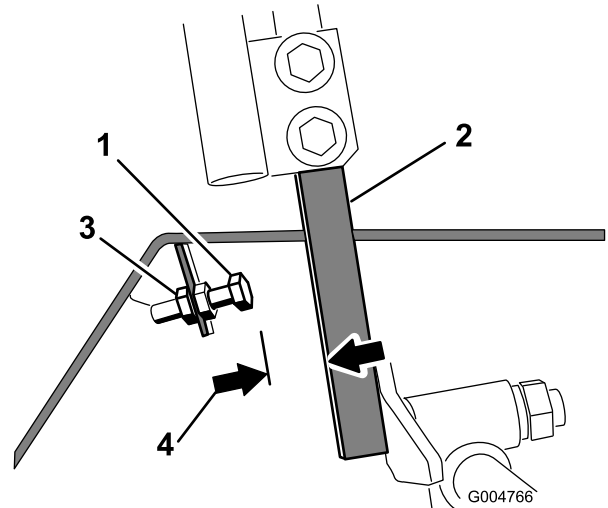

Figure 76
4. Loosen the jam nut on the stop bolt for one of the control levers (Figure 76).